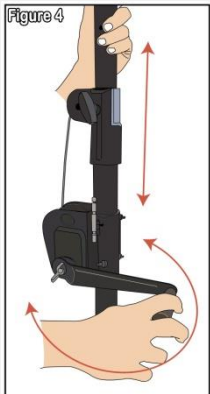

Figure 4
Step 3 – Turn the handle to crank up the system, tighten the knob and insert the locking pin through the hole to secure the height of the stand, see **Figure 4, 5 and 6**.